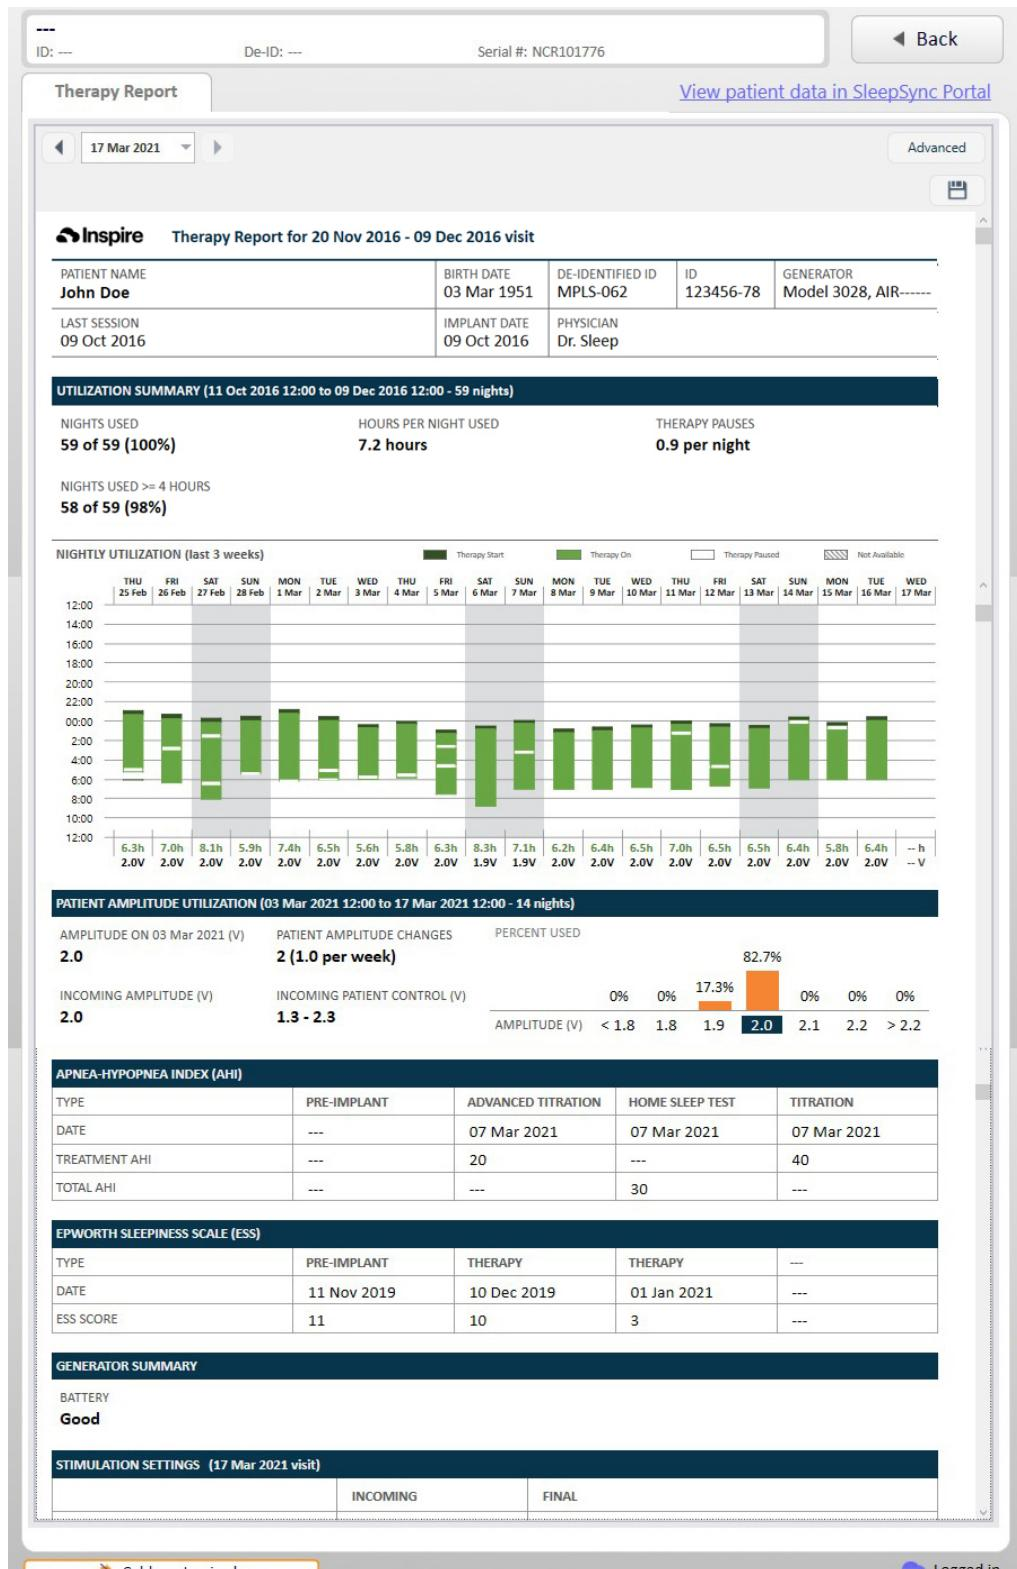
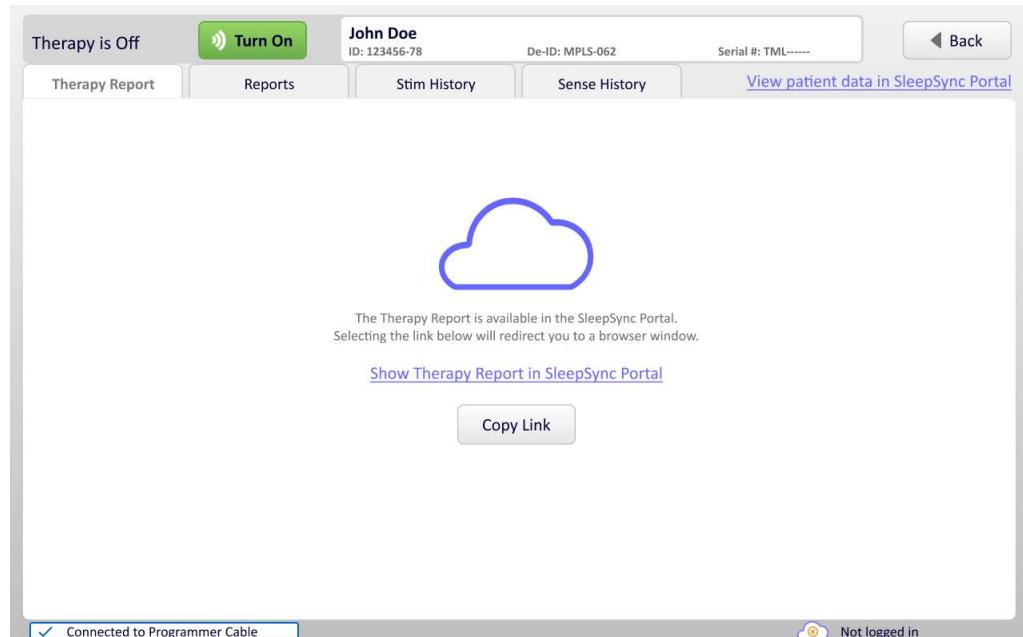

Figure 5-24. Therapy Report Screen
Figure 5-25. Copy link screen
The Therapy Report Screen (Figure 5-24) shows patient data for patients with Model 3024 or 3028 generators in Inspire SleepSync. The Therapy Report Screen (Figure 5-25) provides a link for viewing the therapy report in the SleepSync Web Portal for patients with a Model 3150 generator.
- You can scroll down, as shown in Figure 5-24, to view more information.
If the patient has a Model 3150 generator, you will need to view their data in the SleepSync Portal. If you see the screen from Figure 5-25 you can either select the underlined link or select “copy link” and paste it into your browser. Both selections will take you to the patient you viewed in the application.